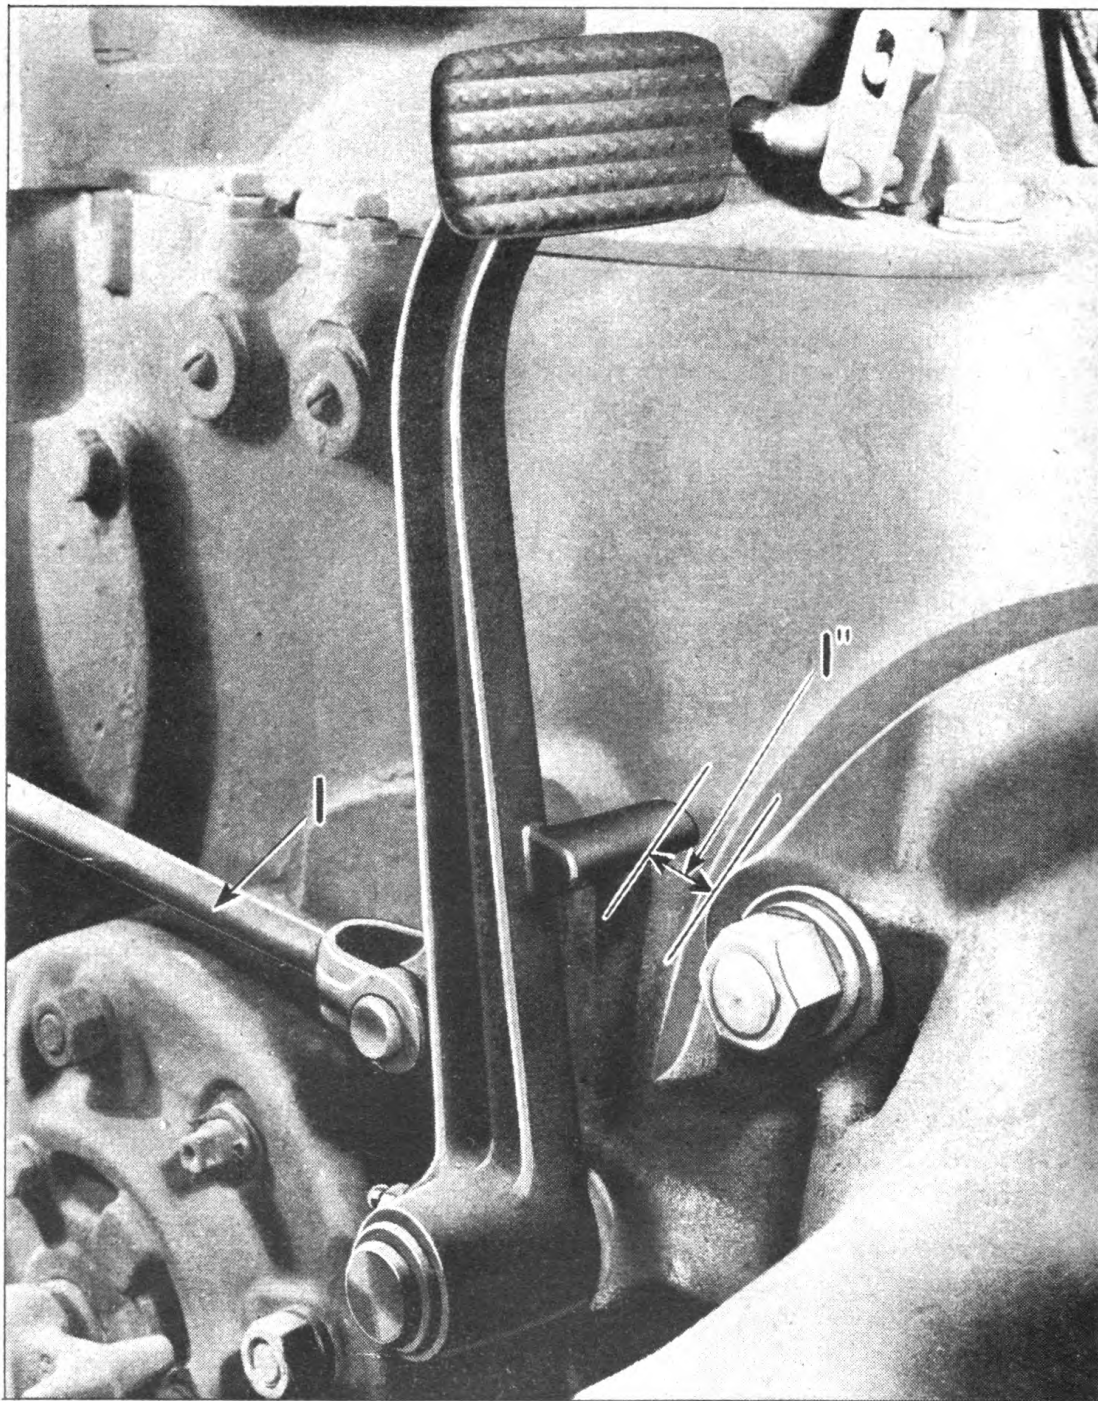

Fig. 12. Free Movement of Clutch Pedal shown as 1"
1. When clutch is engaged, the foot pedal should have one inch free movement from the clutch pedal to the rear axle housing. Fig. 12.